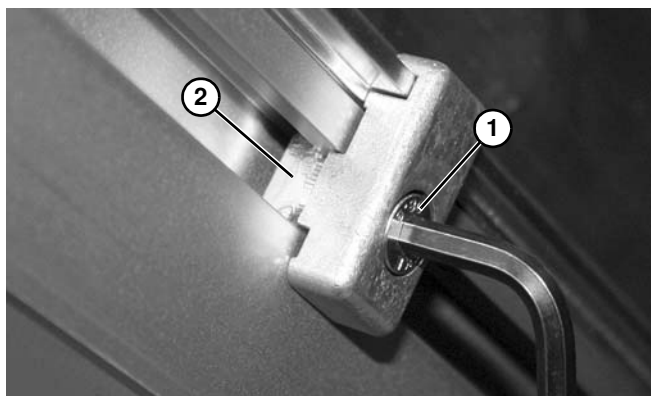

Figure 28
2. Tighten screw (**Figure 28, item 1**) making sure t-bar (**Figure 28, item 2**) rotates and engages inside of t-slot.